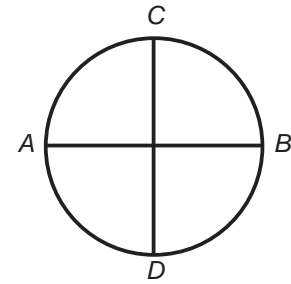

Fig. 3.4: Measurement of specimen radius
9. You should also determine area of cross section A of the specimen rod/bar. For this you have to measure diameter of the rod. You can work with vernier callipers. Measurements should be taken along mutually perpendicular directions as shown in Fig. 3.4 and at different points along the length of the rod. In this way, you can minimise lack of uniformity, if any, in the rod. Record your readings in Observation Table 3.3.